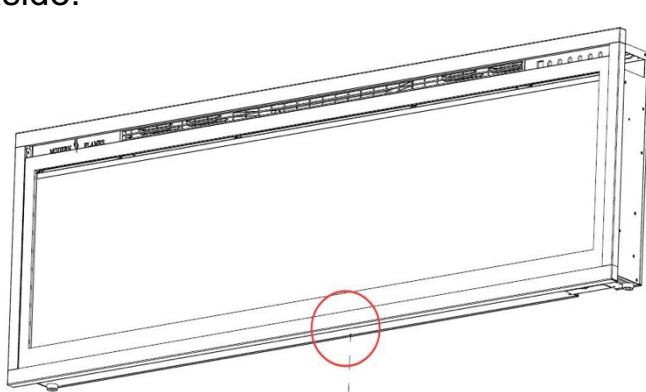

Fig 3-1
A. Remove the silver screw at the bottom of the appliance. (Fig 3-1). Set the screw aside.